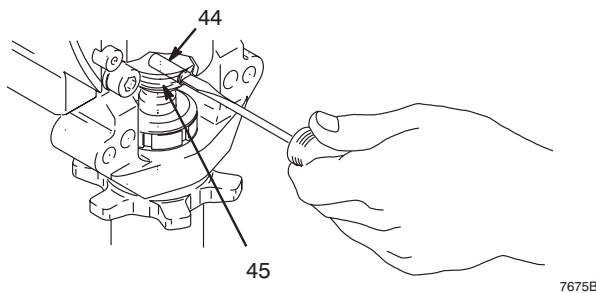
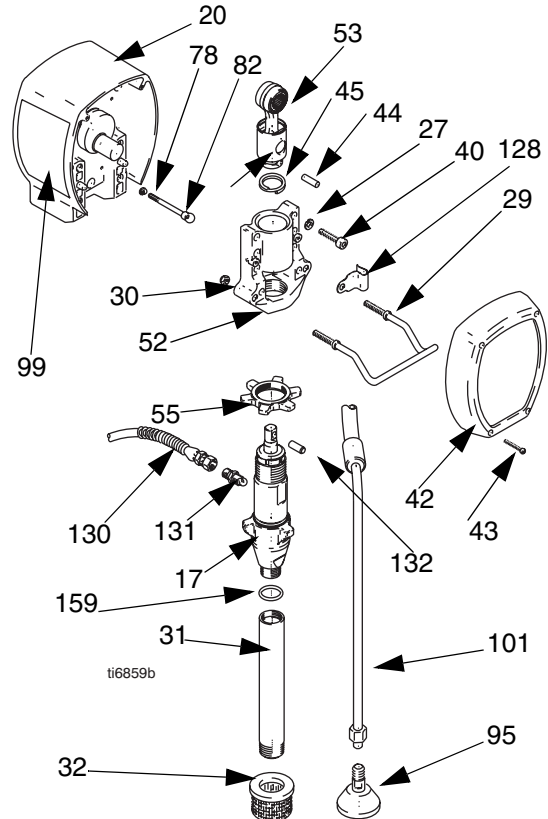

FIG. 2
FIG. 3
2. FIG. 3. Remove screws (43) and front cover (42).
3. Remove drain hose (101). Unscrew suction tube (31) from pump, hold wrench on pump intake valve (A) to keep pump from loosening.
4. FIG. 2. Use screwdriver to push up retaining spring (45) at top of pump. Push out pin (44) from connecting rod cross link.